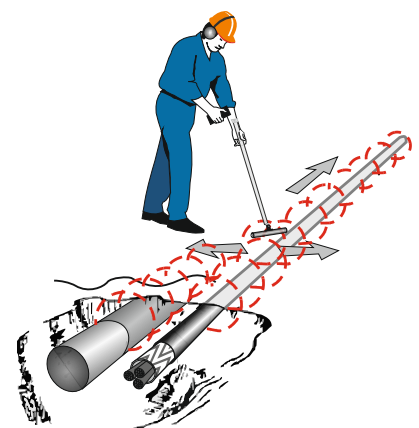

Fig. 3.6
3.5.1 The work on route location should begin in the Broad band mode (fig.3.6), in which the receiver receives a signal from any utility lines with frequency range between 0.05 and 2.0 kHz, such as live cables, pipelines under cathodic protection. Select the Measurement mode by pressing the **⏏** button (pt.7 fig. 3.1), then select the Broadband mode by pressing the filter button **⏏** (pt.5, fig. 3.1).
3.5.2 Conduct route inspection. While moving along the route, move the electromagnetic sensor side to side across the route (as demonstrated in fig. 3.6).